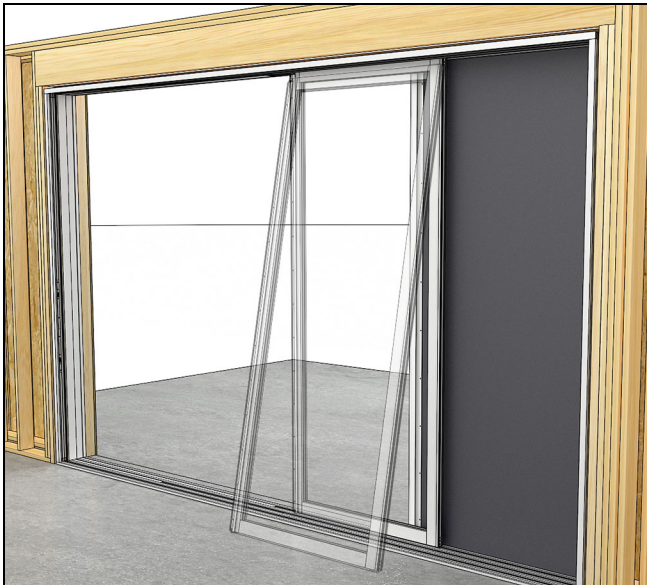

Figure 84 Pocket Panel (interior installation)
1. Install the pocket panel first. Lift the top of the panel into the exterior most head jamb track. Then swing the bottom over the sill track until centered over the roller guide. Set the panel gently onto the guidetrack. See Figure 84